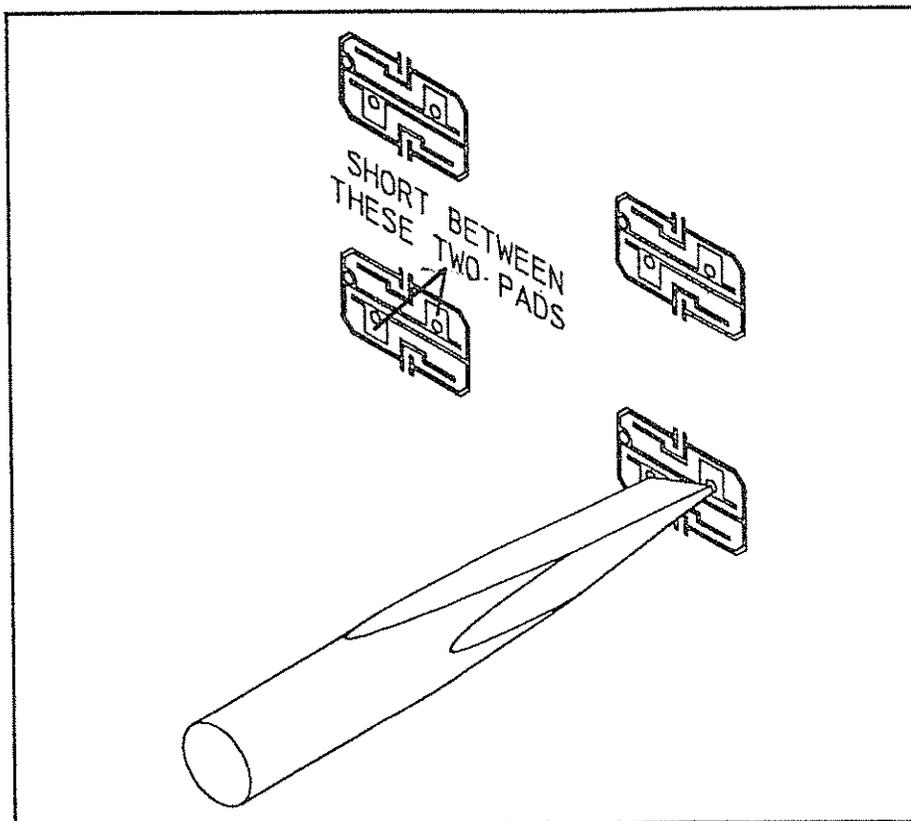

Figure 2-29. Shorting the Keypad Traces
14. Short the traces of any keys that were found to be non-operational during the keyboard selftest. Short the traces with the blade of a screwdriver as shown in figure 2-29.